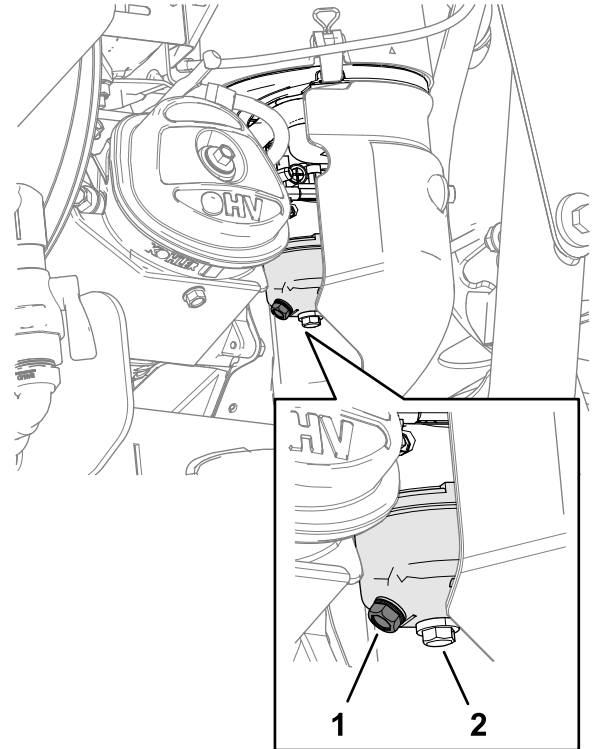

Figure 85
- Locate the drain bolt that is in the side port of the carburetor bowl (Figure 85).